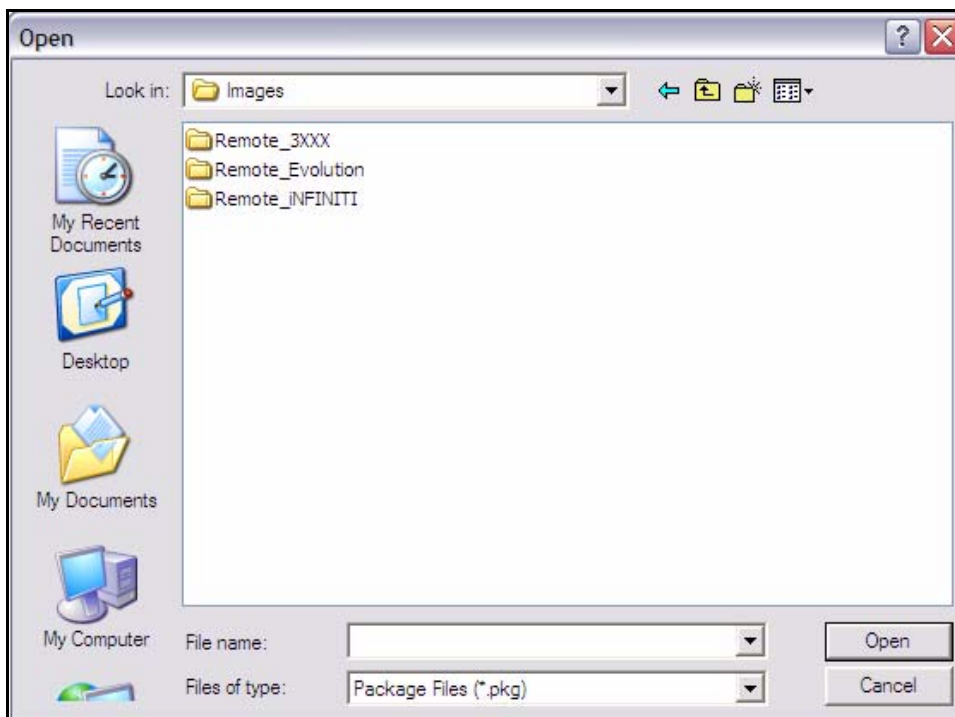

Figure 15. Open Dialog Box with Images Folder
9. Navigate to the remote packages on your laptop. They are located in the Images folder for your release, as illustrated in Figure 15.